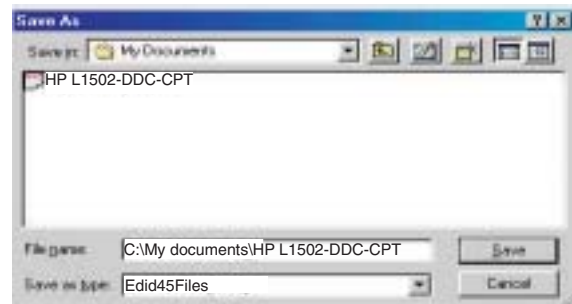

Fig. 25
- Click (Save) icon (or click "file"-> "save as") from the tool bar And give a file name as shown in Fig. 25. The file type is EDID45 file (\*.ddc) which can be open in WordPad. By using WordPad, the texts of DDC data & table (128 bytes, hex code) can be modified. If DDC TEXTS & HEX Table are completely correct, it can be saved as .ddc file to re-load it into DDC IC for DDC Data application.